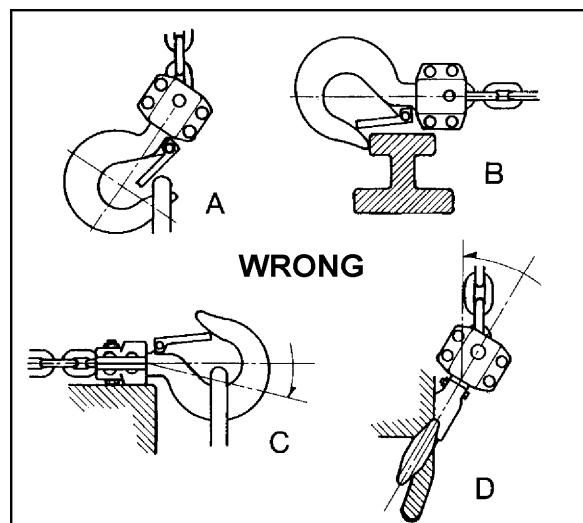

Figure 6
- Never load the hook in front of the safety latch (A, Figure 6).
- Never load the hook tip (B, Figure 6).
- Never load the hook off the centerline (C, Figure 6).
- Never load the hook sideways (D, Figure 6).